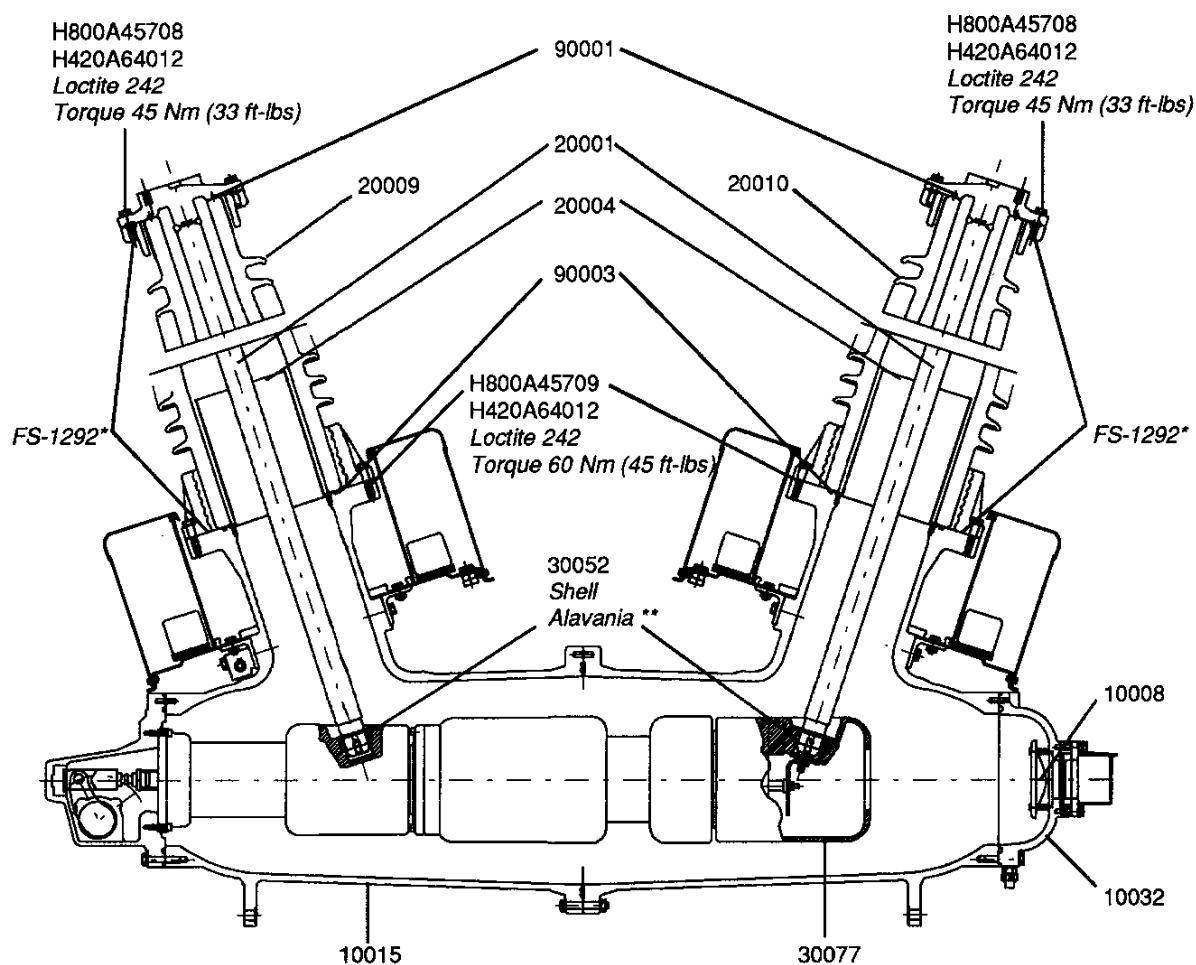
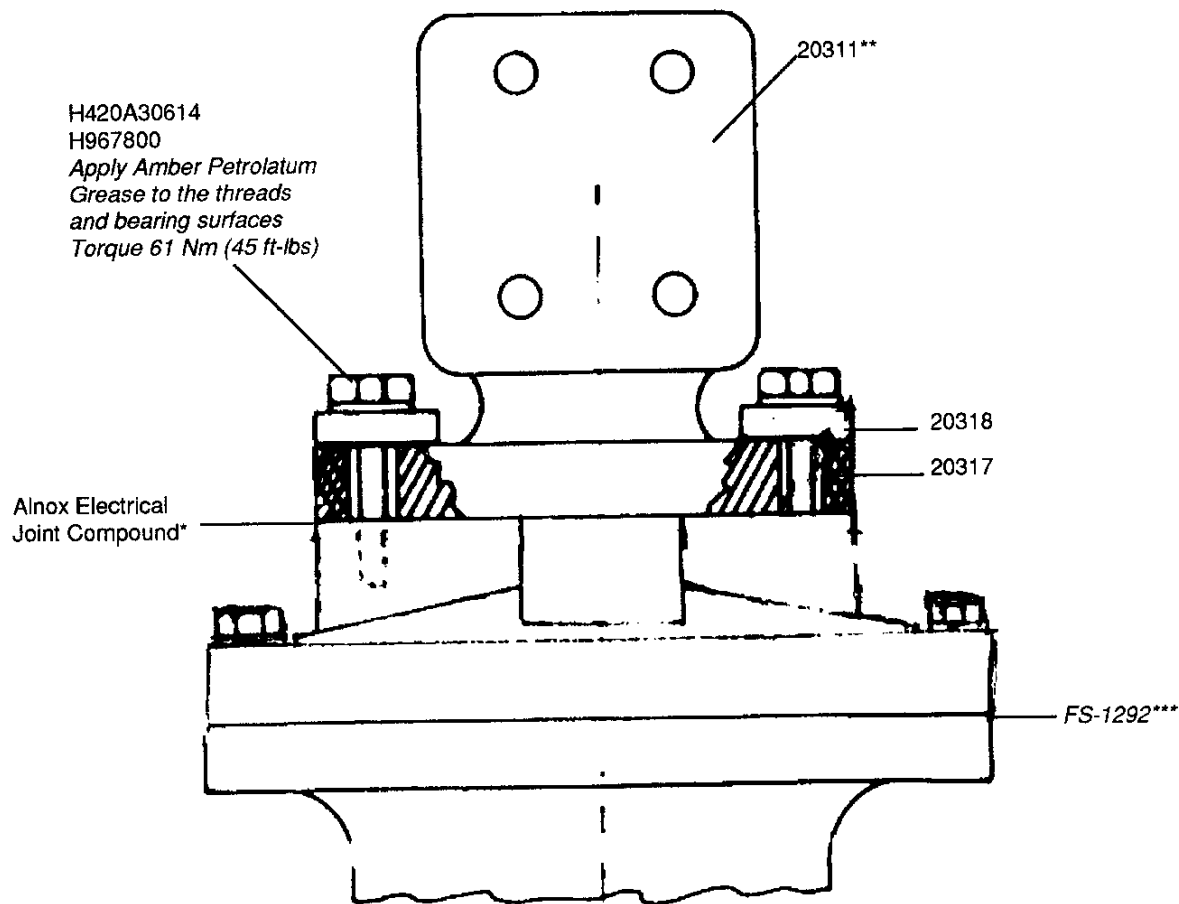

Figure 1
Figure 3
Separate procedures are followed for installing the front and rear bushing assemblies. To install the front bushing assembly 20009 (Fig. 1), refer to section 2.6.1; to install the rear bushing assembly 20010, refer to section 2.6.2.
**The internal bushing throat shields 20004 (Fig. 1 or Plate 1) must be approximately centered within the porcelain bodies. Avoid scratching or denting the throat shields. If the shield is noticeably off center, especially to the extent that it touches the porcelain wall, the electric field characteristics will be negatively affected and dielectric failure could result.**
To install the front bushing assembly 20009 (Fig. 1):
1. Remove the old O-ring 90003 (Fig. 1) from the pocket flange of the pole unit; clean the flange area and the O-ring groove with a lint-free wiper dampened with denatured ethyl alcohol.
3. Remove any scratches on the throat shield 20004 (Fig. 1) using Scotch-Brite. Wipe the throat shield several times using lint-free wipers dampened with denatured ethyl alcohol.
9. Apply a light coat of Shell Alvania No. 2 Grease to the male plug-in area of the bushing conductor 20001 (Fig. 1). Thoroughly rub the grease into the pores of the silverplating with a lint-free wiper and remove all excess.
**Important:** While the bushing assembly is being lowered into place, the male plug-in contact area of the bushing conductor 20001 (Fig. 1) will engage with the female plug-in connection 30052 on the interrupter unit.
12. Apply a drop of Loctite 242 to the threads of the bottom flange 1/2-inch hex head bolts H800A45709 (Fig. 1). Install the bottom flange bolts and flat washers H420A64012 (remove the bushing guide rods and replace them with the remaining bolts when all of the other bolts are in place). Torque the bolts to 60 Nm (45 ft-lbs).
To install the rear bushing assembly 20010 (Fig. 1):
2. Replace the desiccant bag 10008 (Fig. 1).
Each 145 PM circuit breaker is provided with six four-hole NEMA terminal pads 20311 (Fig. 3) as part of the field assembly materials. To install the terminal pad to the top cap of the bushing conductor 20001 (Fig. 1):
1. Coat mating surfaces between the terminal pad 20311 (Fig. 3) and top cap of the bushing with Alnox Electrical Joint Compound (found in the service kit). Abrade both contact surfaces with a wire brush to remove dirt and oxides. Completely wipe off the Alnox with a clean, lint-free wiper and immediately apply a new coat of Alnox to both mating surfaces to prevent oxidation.
3. Place a clamping ring 20317 (Fig. 3) over the terminal with the drip slots at the bottom of the clamping ring.